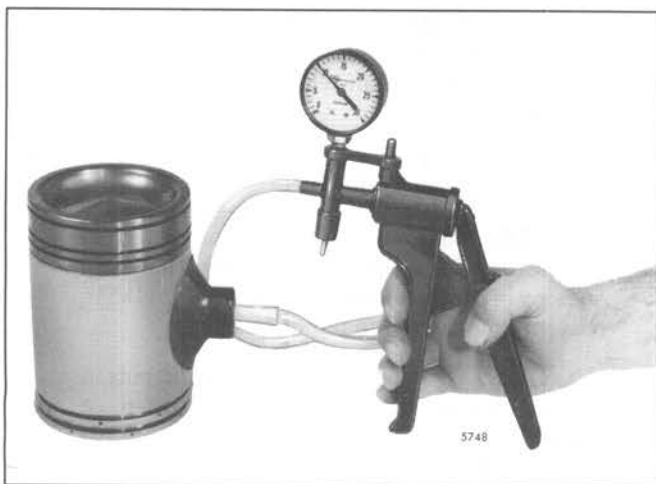

Fig. 11 – Checking Piston Pin Retainer for Proper Sealing with Tool J 23987-01
10. One important function of the piston pin retainer is to prevent the oil, which cools the underside of the piston and lubricates the piston pin bushing, from reaching the cylinder walls. Check each retainer for proper sealing with leak detector J 23987-01 (Fig. 11). Place the suction cup over the retainer and hand operate the lever to pull a vacuum of ten inches on the gage. A drop in the gage reading indicates air leakage at the retainer.